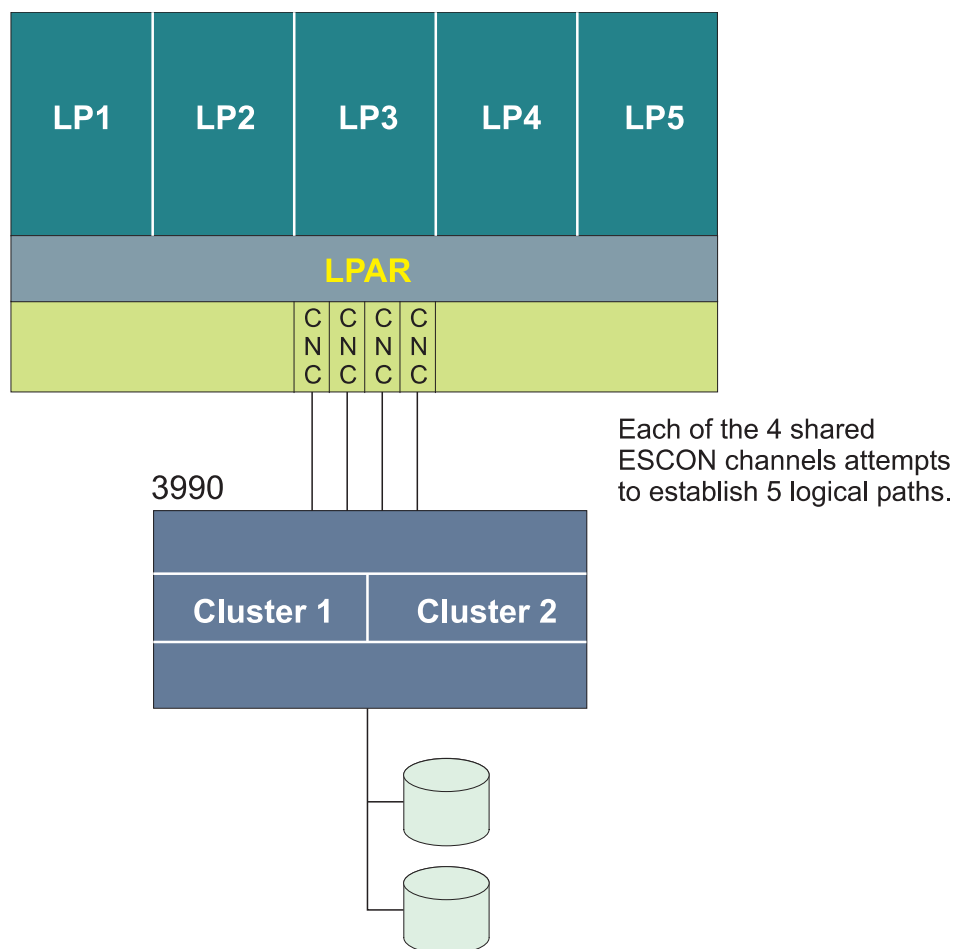

Figure 6. A shared ESCON configuration that can benefit from better logical path management
**MIF example:** Figure 6 on page 39 shows an ESCON shared channel configuration on an MIF-capable CPC. In this example, all five LPs share each of four ESCON channels attached to a 3990. Each shared ESCON channel represents five channel images corresponding to the five LPs. Each channel image requests a logical path to the 3990. Again, you can avoid this situation by managing logical paths.